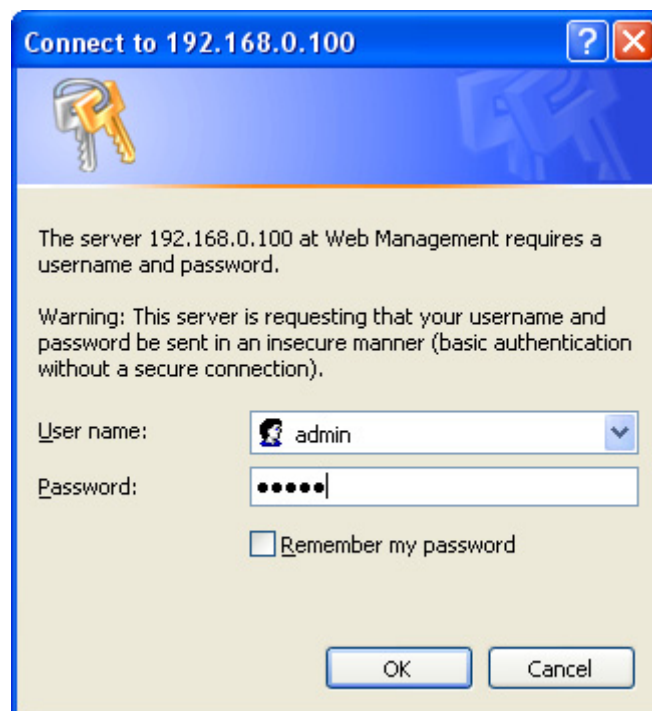

Figure 4-1-1: Login screen
2. When the following login screen appears, please enter the default username "**admin**" with password "**admin**" (or the username/password you have changed via console) to login the main screen of Managed Switch. The login screen in Figure 4-1-1 appears.